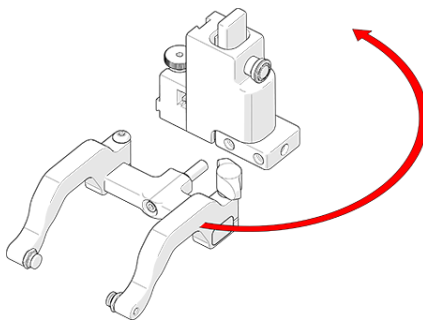

Figure 3-28 Orient to opposite side
2. Position the yoke and arms to the opposite side of the probe holder (see Figure 3-28 on page 60).